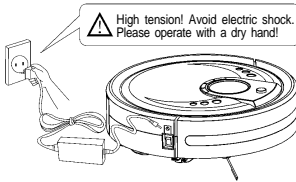

Figure 1
02. When charging directly via the power adaptor, please connect the output plug of the adaptor with the charging socket on the robot. (See figure 1)